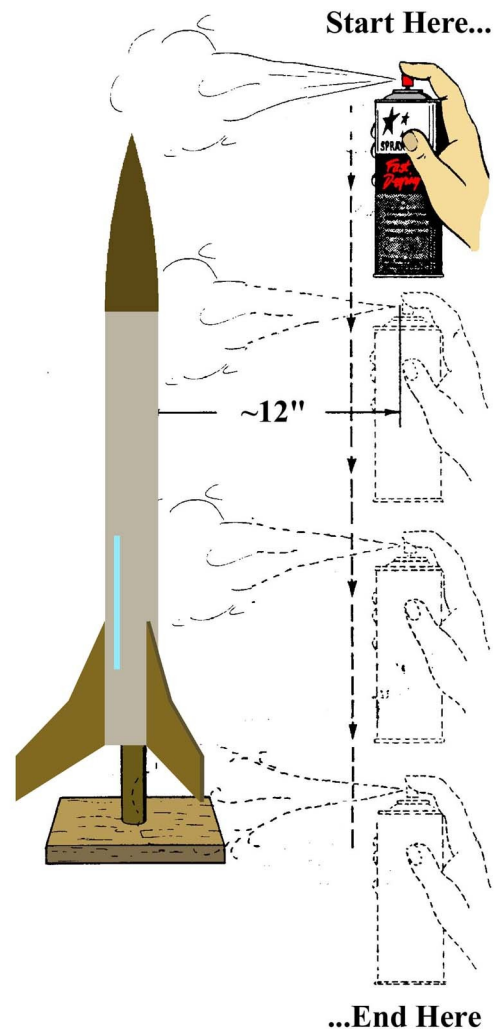

Figure 9
- **Step 17** The illustration in Fig. 9 shows the correct method for spraying your model, regardless of the equipment used. Keep the tip about 12" away from the model, and use a top-to-bottom spray pattern – **never** spray from side-to-side, or from bottom-to-top –